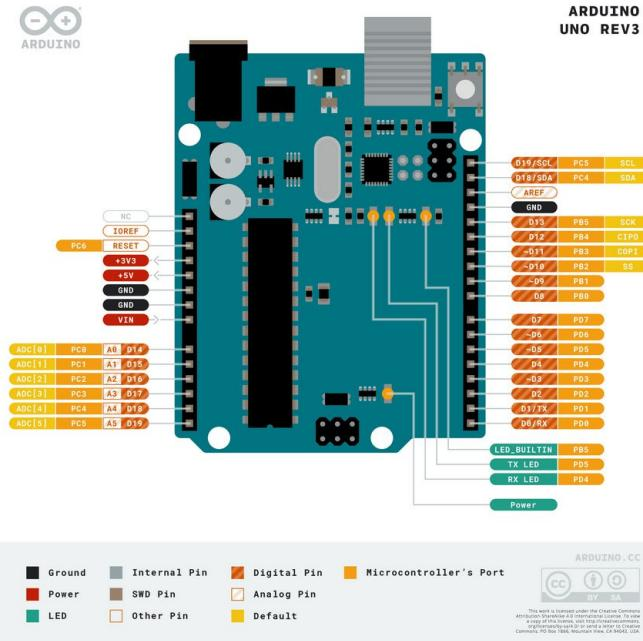

Fig. 1.1
5. The LED beside pin 13 will start blinking. See Fig. 1.1 for the Arduino pin diagram.